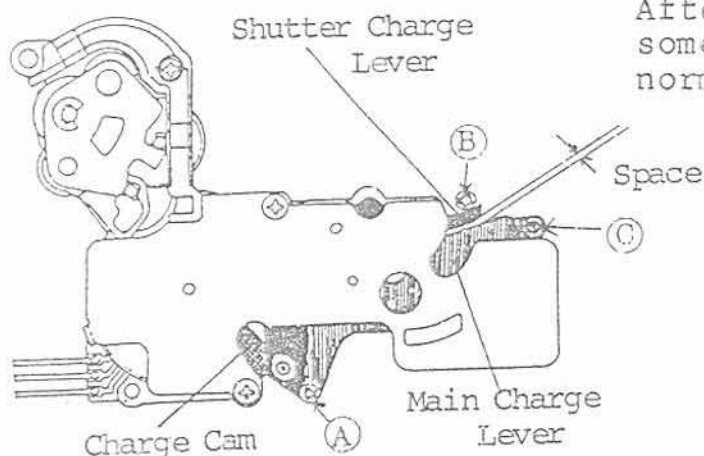

Fig. 1: Charge Complete
2. If not within tolerances, change the adjusting collar (Fig. 1).
The 1st curtain sets first and then the 2nd curtain. To insure proper setting of the 2nd curtain, after adjustment (B) must have some possible movement in the normal direction (Fig. 1).